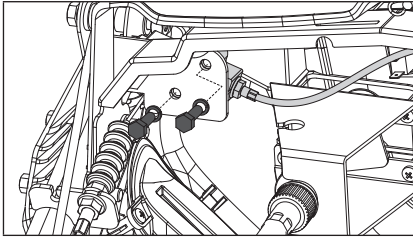

Figure 89
4. Remove the two M6 x 20 bolts and lock washers from the plate underneath the control panel near the auger control lever. (Fig. 89)